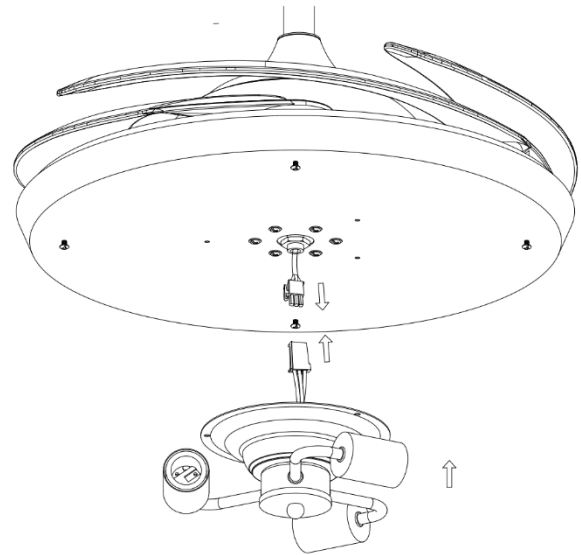

Fig. 10
2. Connect the quick connector to the lamp holder part. (Fig. 10)